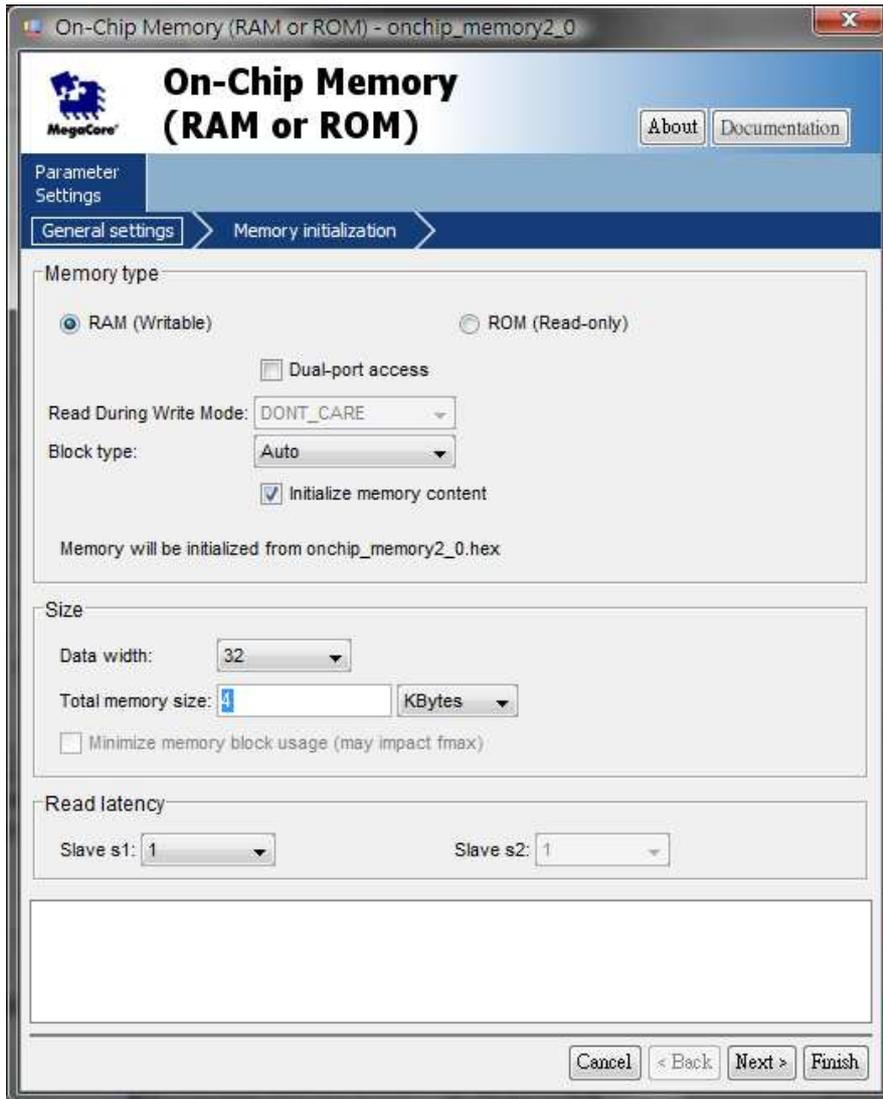

Figure 8. Define the on-chip memory.
- In the On-Chip Memory Configuration Wizard window, shown in Figure 8, set the memory width to 32 bits and the total memory size to **4 Kbytes**